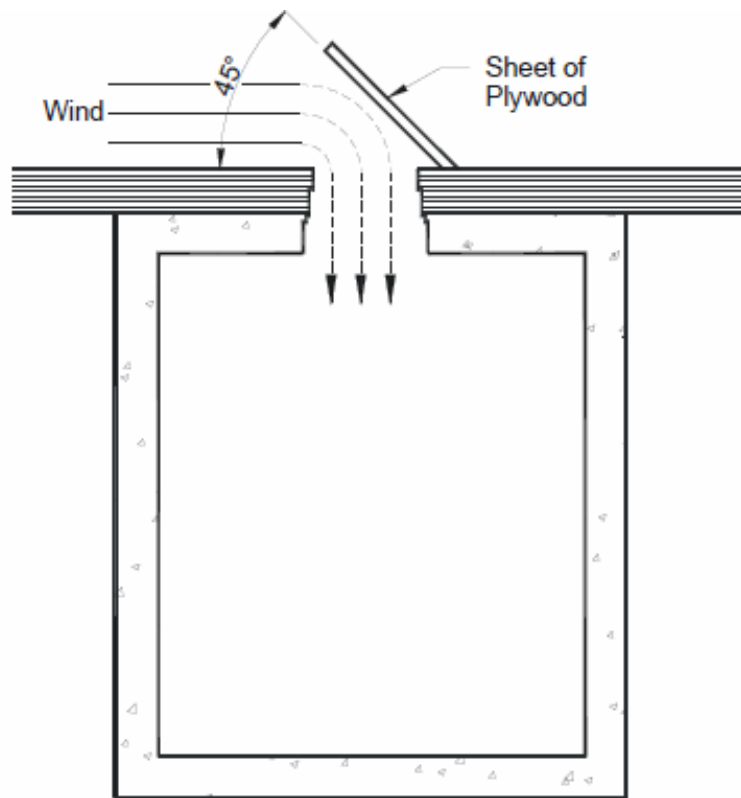

Figure 1
6.8.2 SAIL METHOD. The sail method (refer to Figure 1) ventilates the manhole by using the wind. A piece of plywood or some other material is placed over the manhole. The edge of the plywood facing the wind is lifted up until the plywood forms about a 45-degree angle with the manhole opening. The wind enters the manhole, forcing possible contaminated air out of the manhole.